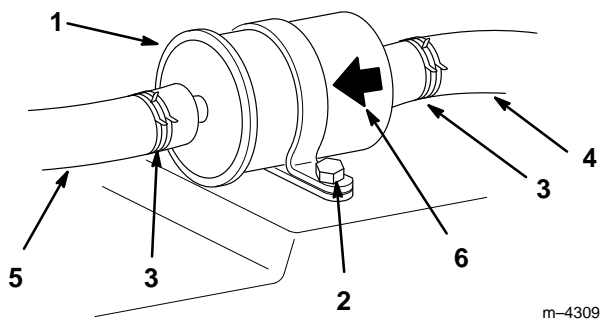

Figure 44
3. Remove the filter mounting bolt and remove the filter (Fig. 44).
4. Squeeze the ends of the hose clamps together and slide away from the filter (Fig. 44). Remove the fuel lines from the filter.
5. Push fuel lines onto the new filter, and slide hose clamps close to the filter (Fig. 44). Make sure the flow direction arrow points toward the engine\fuel pump. Secure filter to chassis with previously removed mounting bolt (Fig. 44).